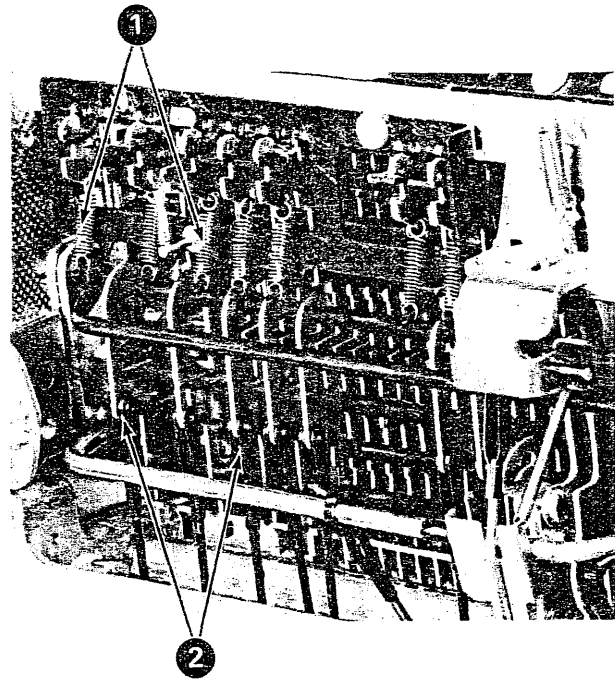

Figure 4-26. Tilt-Selection-Differential Removal (Steps 3 and 4)
4. Disconnect the clevises and remove them from the links (No. 2, Figure 4-26).